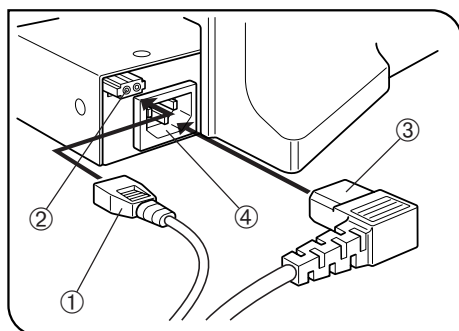

Fig. 36
(Figs. 36 &amp; 37)
2. Connect the power cord connector ③ to connector ④ firmly. (Fig. 36)